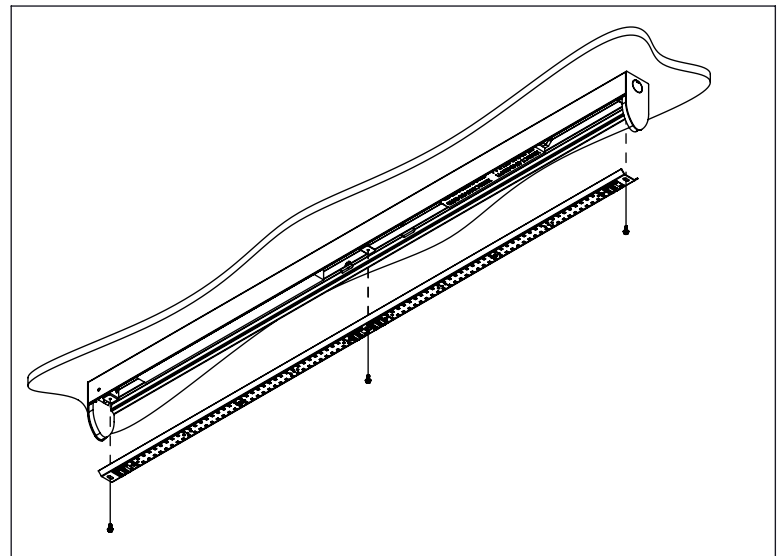

Figure 4
4. Make electrical connections, then reinstall LED gear tray (Fig. 4).